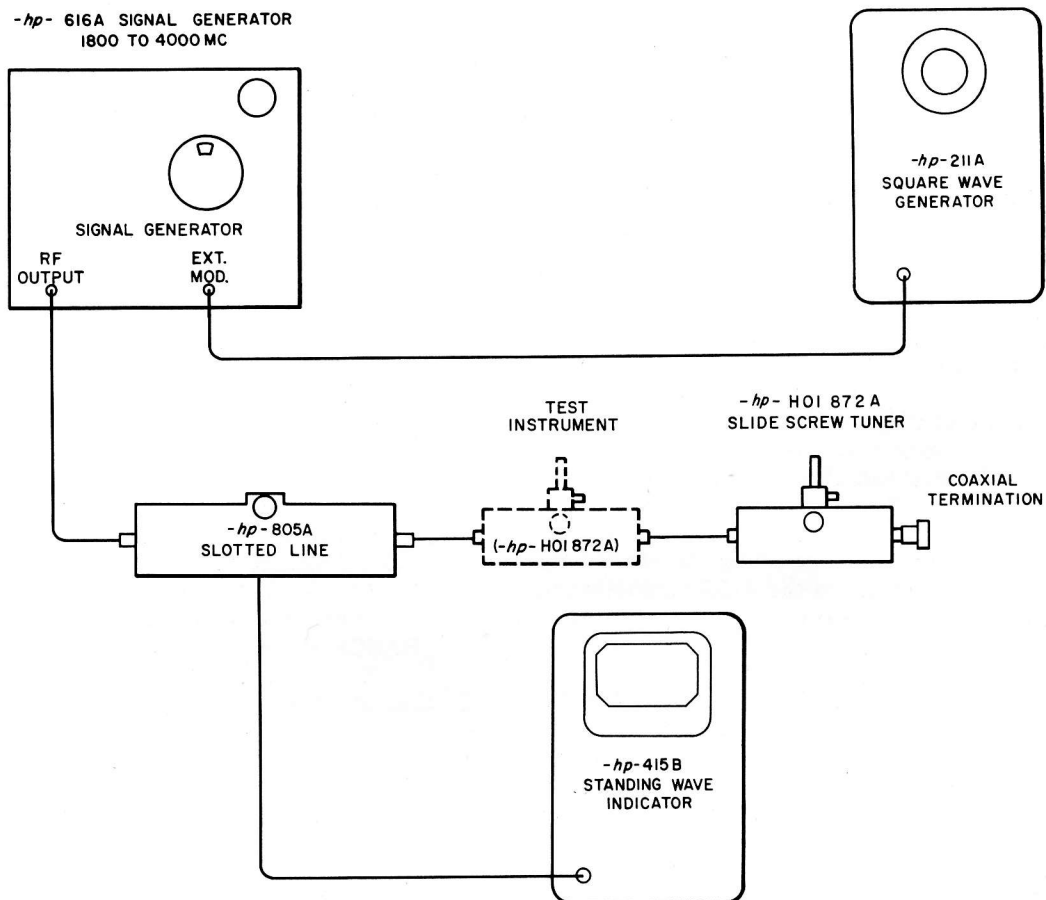

Figure 6-1. H01 872A Slide Screw Tuner Check.
1) Connect the equipment as shown in Figure 6-1. Throughout this procedure, the H01 872A being calibrated will be referred to as the "H01 872A under test." The H01 872A used in the test set-up will be referred to as the "calibrating H01 872A."
- 1) Connect the H01 872A under test to the 805A Slotted Line as shown in Figure 6-1. Omit the calibrating H01 872A Slide Screw Tuner from the setup.